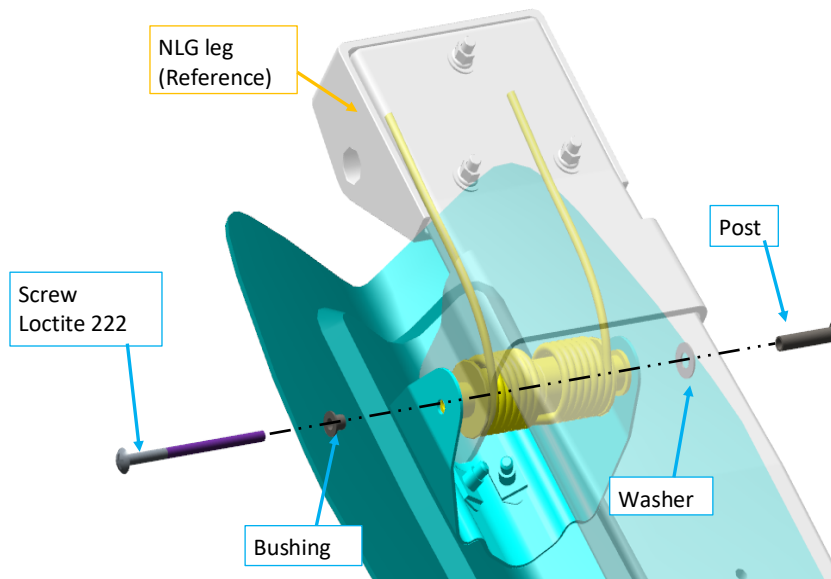

Figure 1 Remove Forward NLG Door
3. Remove screw retaining NLG Door as shown in Figure 1 **Error! Reference source not found..** Retain removed hardware for reinstallation.
14. Reinstall NLG door using retained hardware, see Figure 1.